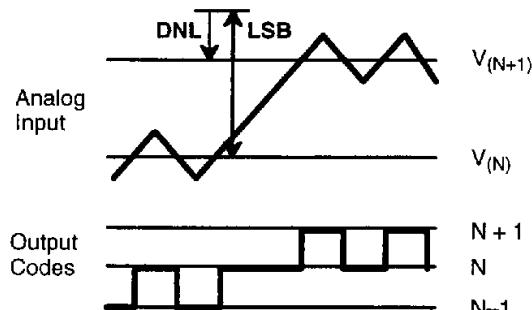
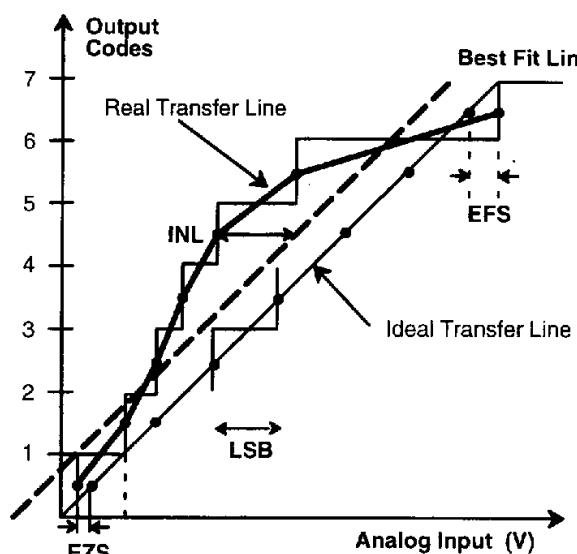

Figure 3. DNL Measurement
Figure 4. INL Error Calculation
- ² Tester measures code transitions by dithering the voltage of the analog input (V_{IN}). The difference between the measured and the ideal code width ($V_{REF}/256$) is the DNL error (Figure 3.). The INL error is the maximum distance (in LSBs) from the best fit line to any transition voltage (Figure 4.). Accuracy is a function of the sampling rate (F_S).